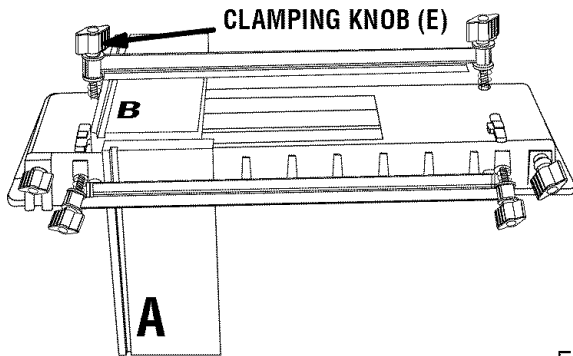

Fig. 12
- Insert board (A) between front clamping bar and front surface of dovetail base with bottom edge toward the left 2-way stop. Temporarily clamp board (A) “inside-out” to the left front of the fixture so that it extends above the base. See Figure 12. This is done to assist in the proper positioning of board (B).
- Insert board (B) between top clamping bar and top surface of dovetail base, with bottom edge against left 3-way stop, and flush with extended portion of board (A). See Figure 12.
NOTE: Once the router is set-up and all adjustments made, you can refer to figures 12, 16, 17 and 18 for proper placement of your boards each time you cut flush dovetail joints for a drawer or box.